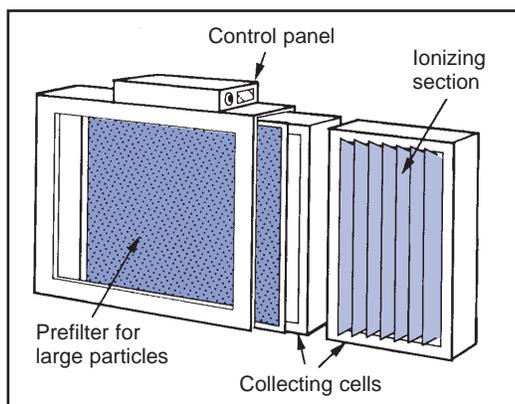

Fig. F-3: Electronic air cleaners
- Filters or air cleaners. You’ll have a choice of several levels of particulate removal with a forced-air furnace – standard fiberglass unpleated filter, pleated 1- or 2-inch thick filters, 9-inch deep-pleated filters, and electronic air cleaners (see Figure F-3). High-efficiency particulate air (HEPA) filters are also available. Filters reduce the amount of airborne dust, help avoid repairs by keeping the furnace clean, and the more sophisticated models provide a cleaner and healthier indoor environment. MGE recommends installing at least the 9-inch deep-pleated filters.